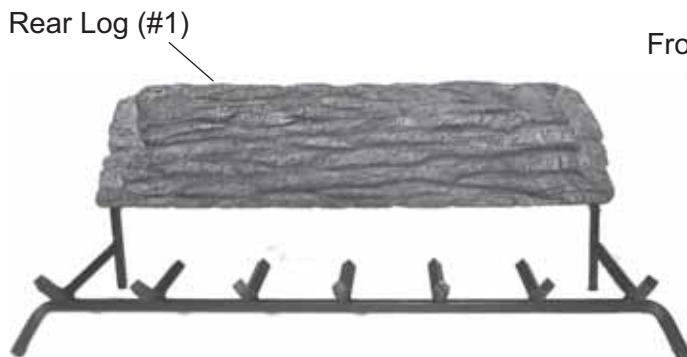

Figure 36 - Centering Rear Log (#1)
2. Center rear log #1 on grate bars and flush with rear of the grate. See *Figure 36*.